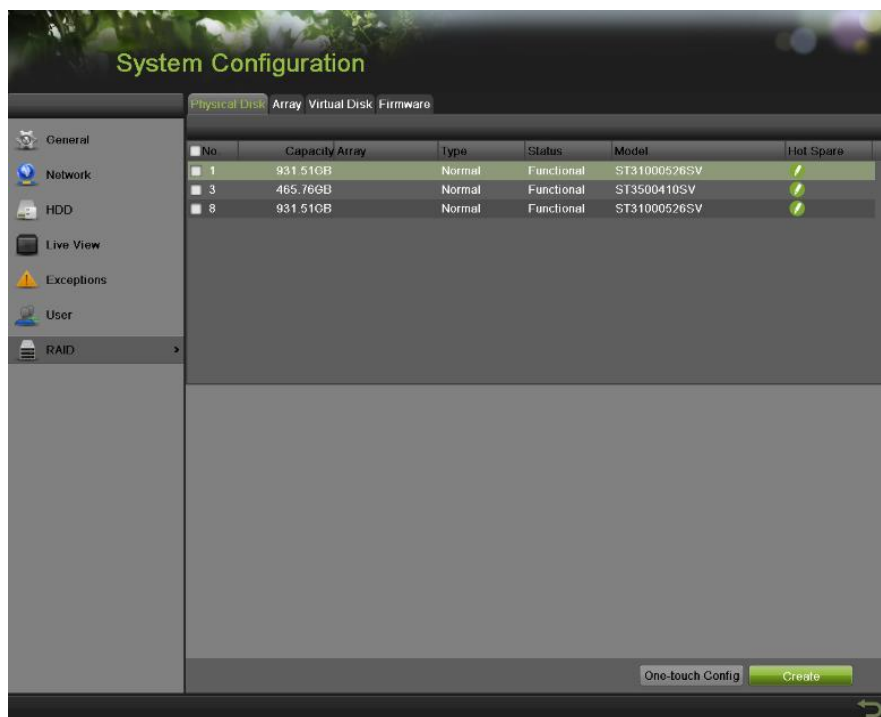

Figure 169 Physical Disk Settings Menu
1. Enter the Physical Disk interface by going to Menu > System Configuration > RAID > Physical Disk, as shown in **Figure 169**.